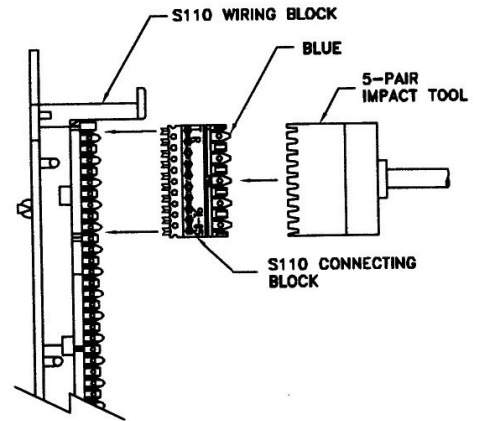

Figure 3
3. Orient the S110 connecting block as shown in Figure 3 with the blue marking on the top. Seat the S110 connecting block using a 5-pair impact tool.